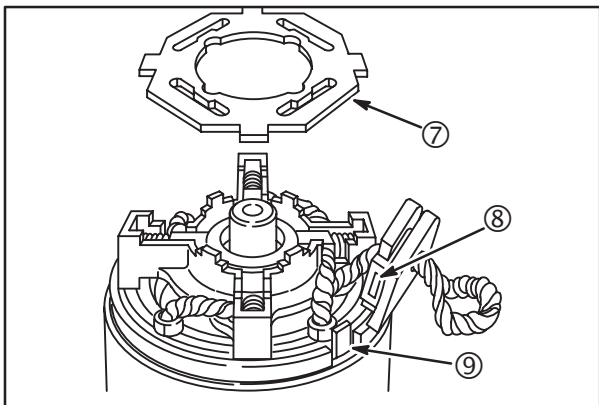

Fig. 46
6. Install brush retainer plate (7), **Fig. 46**.
7. Assemble rubber seal to starter housing. Be sure notch in rubber seal (8) is inserted over tab on housing (9).